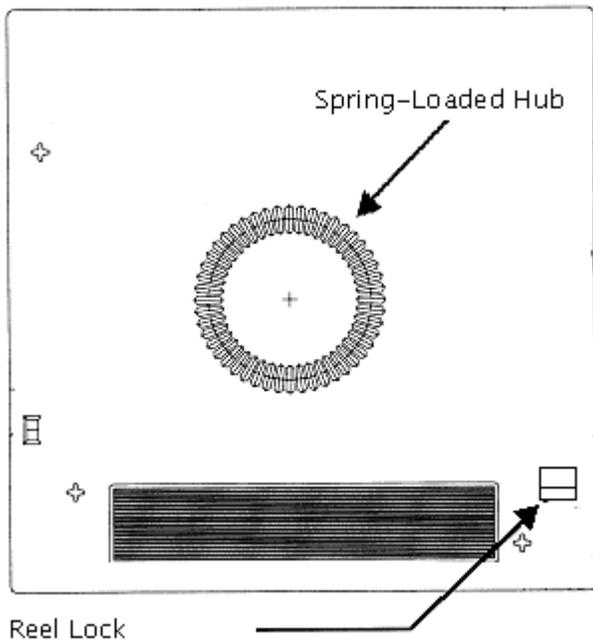

Figure 2: Location of Reel Lock Opening and Spring-Loaded Hub on Bottom of DLTape Cartridge
5. Look at the bottom of the tape cartridge, holding it as shown in Figure 2. Check the opening indicated in Figure 2 and ensure that the small plastic tab is partially visible. This is the second reel lock. The reel locks can break if the cartridge is dropped. This may be the cause of any rattling sound you hear when you gently shake the tape cartridge. If this reel lock tab is not visible do not use the cartridge.